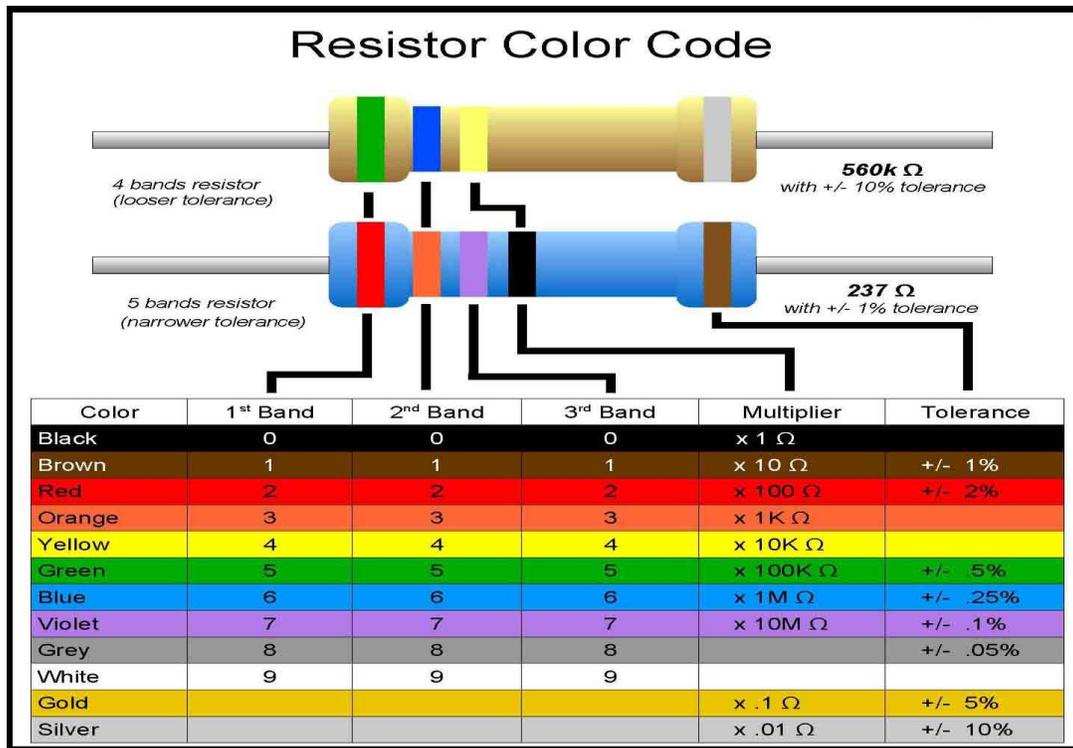

Figure 2
2. Use Figure 2 to read the resistor value. After the TAs explained the multimeter, use the multimeter to measure the resistor value. Be sure you have the right resistor (220 Ω). For future reference, DO NOT MEASURE CURRENT IN PARALLEL.